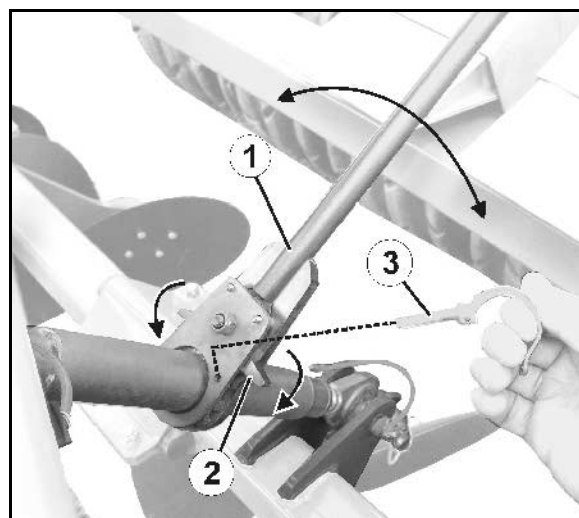

Fig. 58
1. Remove the clip pin (Fig. 58/3).
2. Engage the turning lever (Fig. 58/2) in the required direction.
3. Use the hand lever (Fig. 58/1) to lengthen or shorten the spindle.
4. Secure using the clip pin (Fig. 58/3).